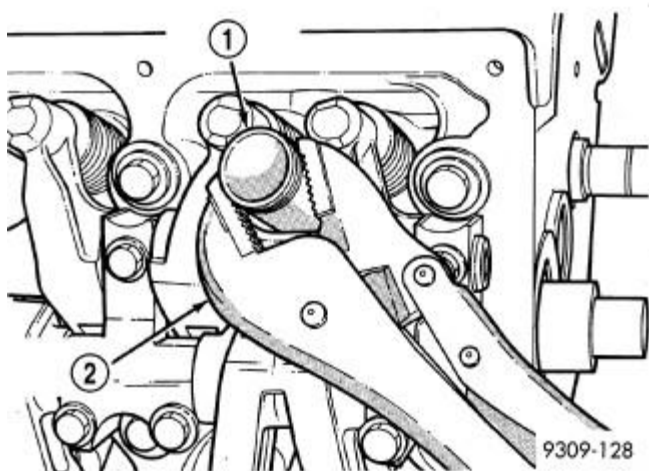

Fig. 289: Servicing Spark Plug Tubes
2. Using suitable locking pliers, remove the tube from the cylinder head and discard tube. Refer to **Fig. 289**.